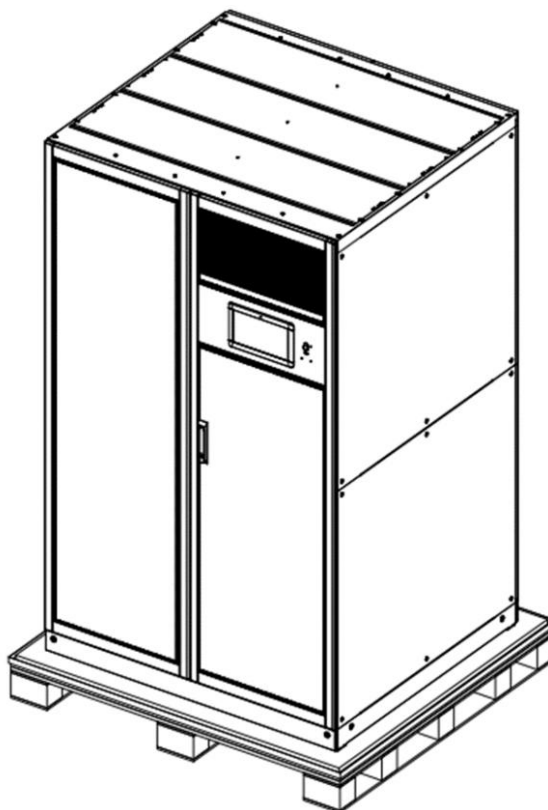

Figure 3-5 Remove the protective foam
Step 4: After opening the wooden box, remove the cushioning material, as Figure 3-5;